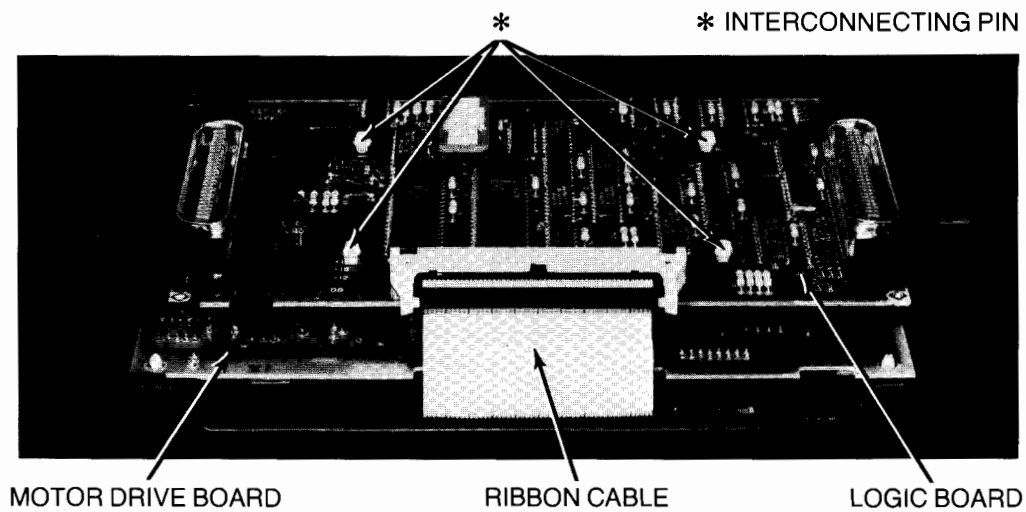

Figure 4-47. Separating Logic and Motor Drive Boards
7. Disconnect ribbon cable from logic board (Figure 4-47).
8. With needlenose pliers, squeeze four plastic pins that interconnect the two boards (Figure 4-47), force pins out of logic board, and lift logic board off motor drive board.